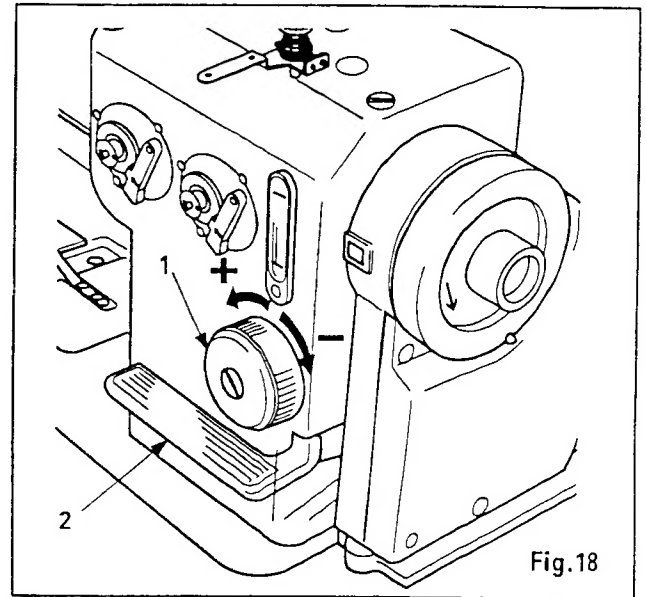

Fig.18
To regulate the length of stitch, turn feed regulating dial (1) to the left or right, as shown in Fig. 18.